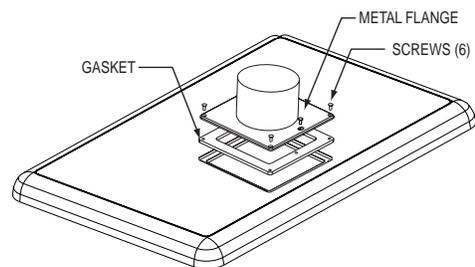

Figure 11.
2. Install the Vent Adaptor as shown in **Figure 11**. Make sure the holes in the gasket, metal flange of the main vent assembly, and heater cover are aligned before securing into place using the six (6) screws provided in the Vent Adaptor Kit.